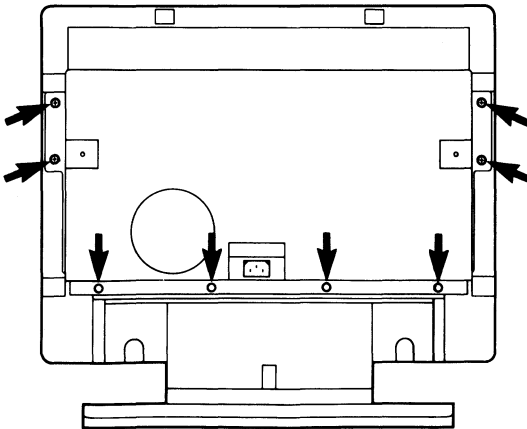

Figure 5-59. Safety Frame Lockscrews
12. Remove the screws that fasten the cage to the cover as shown in Figure 5-59.